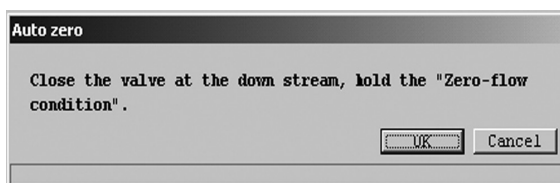

Fig.69
- ② A message box as shown in Fig. 69 appears. Stop the flow completely first and then click on "OK".